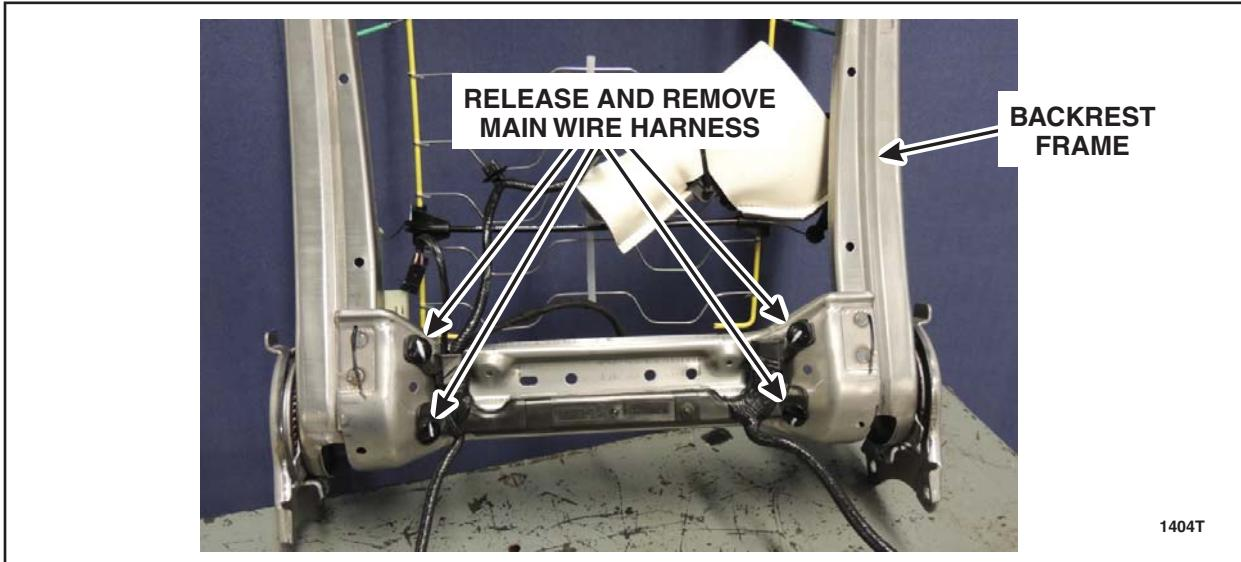

FIGURE 15
17. If equipped, remove the main wiring harness from the backrest frame. See Figure 15.
3. If equipped, install the main wiring harness to the backrest frame. See Figure 15.